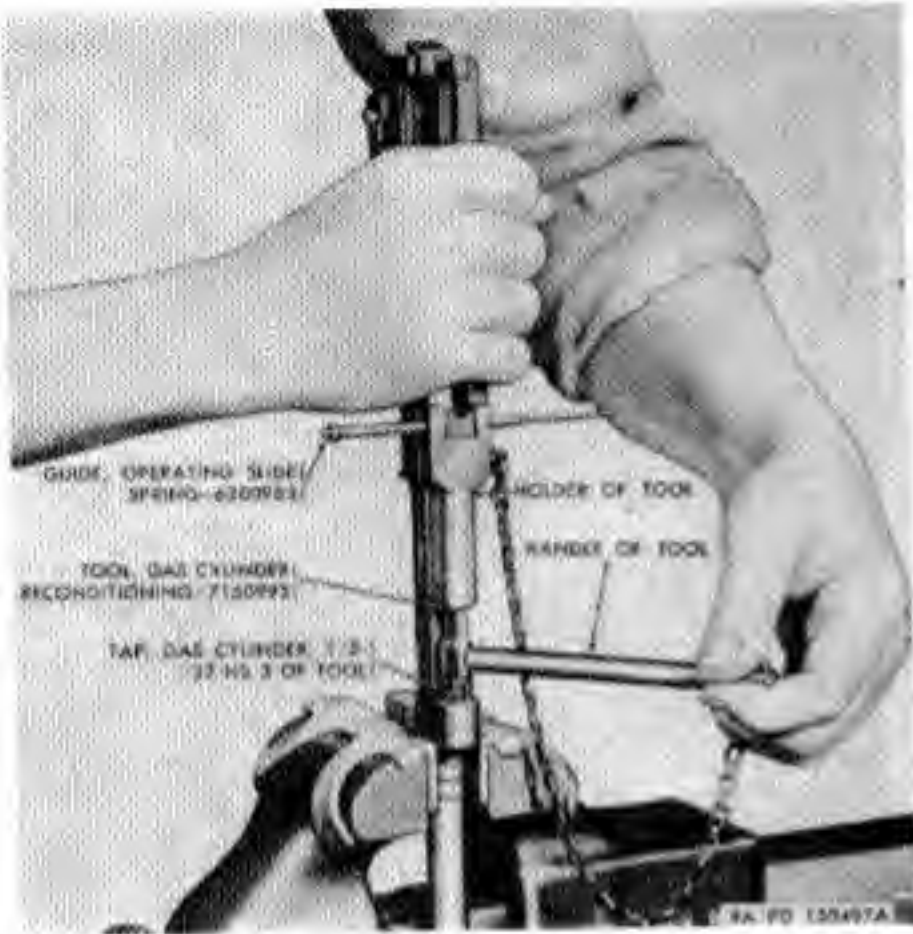

Figure 83. Chasing gas cylinder thread.
Note. When using the head space gage, disengage the bolt from the operating slide. There are two types of head space gages assigned the same stock numbers for same sizes. If the gage is of the design that has a rim, place the rim carefully under the extractor against the face of the bolt (Fig. 83), if the extractor is assembled, thereby avoiding snapping the extractor over the gage. When the other type (shouldered), is used, it is inserted into the chamber first and the bolt closed on it. In closing the bolt to check the depth of the chamber, exert only the lightest finger pressure and make sure that the hammer does not exert pressure against the bolt.
a. *Chasing Gas Cylinder Thread.* Chase threads of the gas cylinder, using gas cylinder tap member of tool 7160995 (Fig. 83). Dip tap in a cutting oil and start tap carefully in gas cylinder. Cut threads a little at a time, using a forward and backward movement. Exercise care to stop tap as soon as it
b. Gas Cylinder Piston and Nut. Insert gas cylinder piston into cylinder and screw cylinder piston nut into the threads using gas cylinder reconditioning tool 7160995 (Fig. 83) (with component wrench). Make certain to stake the cylinder lightly into the nut, in one of the three places provided, or the nut may work loose during the firing of the carbine. After the piston and nut are assembled in the gas cylinder, check to assure that there is no binding (page 82).